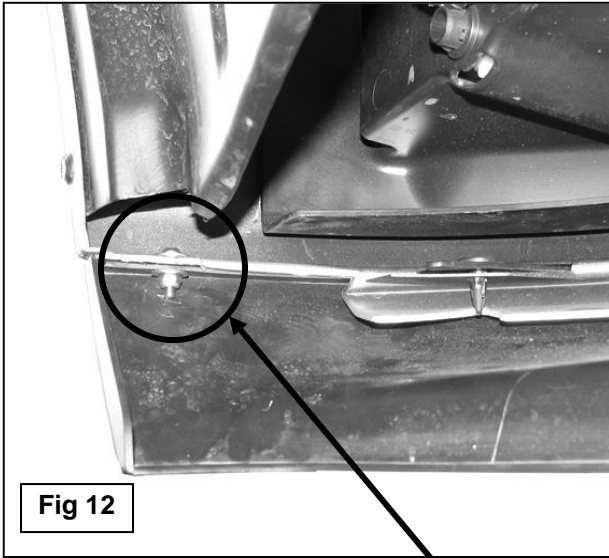

Fig 12
9. Check the fit and reinstall the splash guard using the factory hardware. Use the included (2) 5mm x 15mm Allen Bolts, (4) 5mm Flat Washers and (2) 5mm Lock Nuts to replace the rivets if required, **(Figure 12)**.